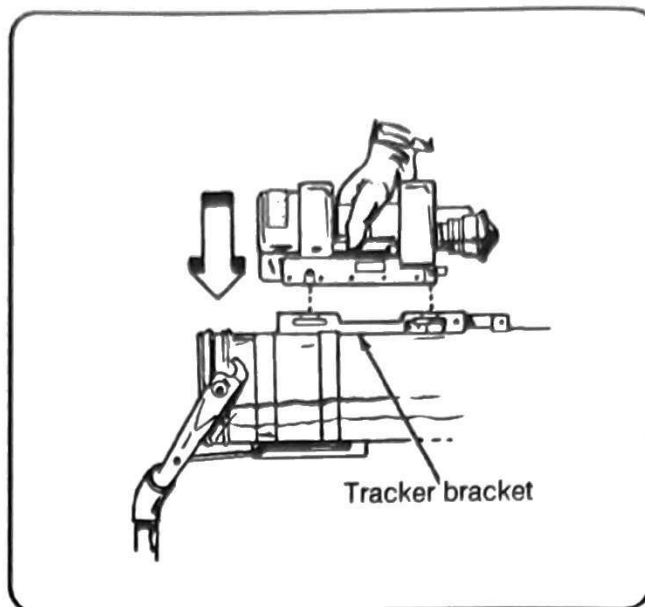
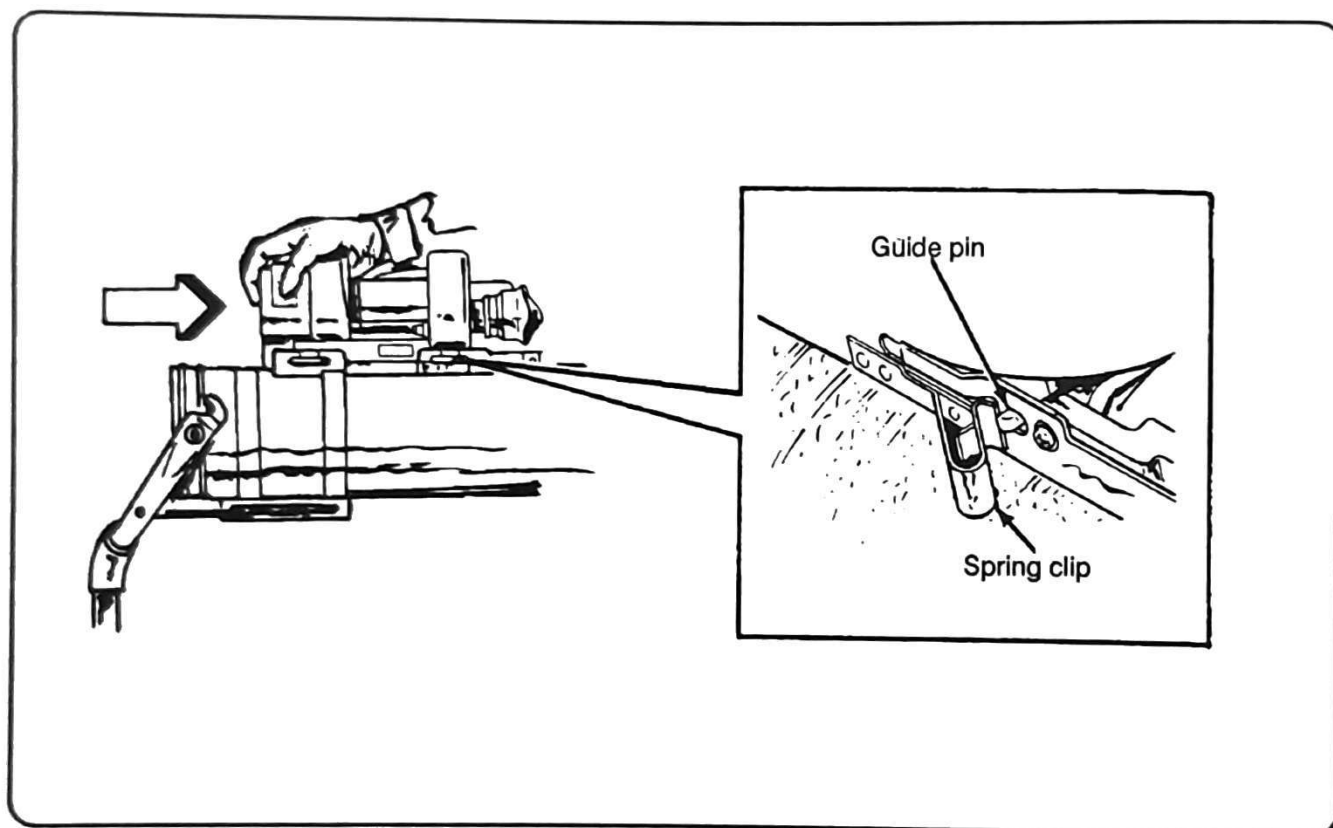

Figure 4-4. Aligning the day tracker guide pins.
Figure 4-5. Seating the day tracker on the round.
e. **Mating the Tracker (Day or Night) to the Round.** Assume the firing position and put the round on the shoulder. Place the tracker guide pins in the slots of the tracker bracket guide rails (Figure 4-4). (For illustration, the day tracker is used. However, the procedure is the same as for the night tracker.) Slide the tracker firmly to the rear. Use both hands, until the spring clip locks the guide pin in place (Figure 4-5). If the tracker does not mate, notify your squad or section leader.